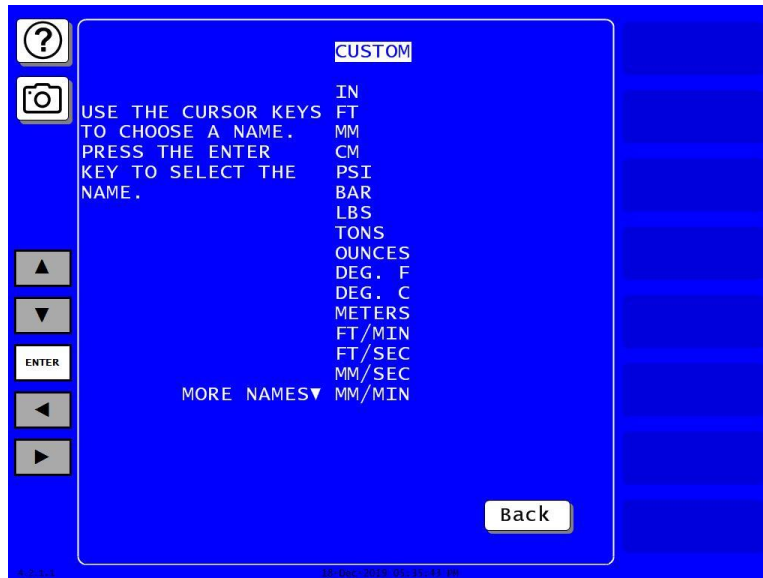

Figure 4-19. Tool Information Units Selection Screen
6. Highlight the UNS 1 item, and press ENTER. The Tool Information Units Selection screen, shown in Figure 4-19 displays.